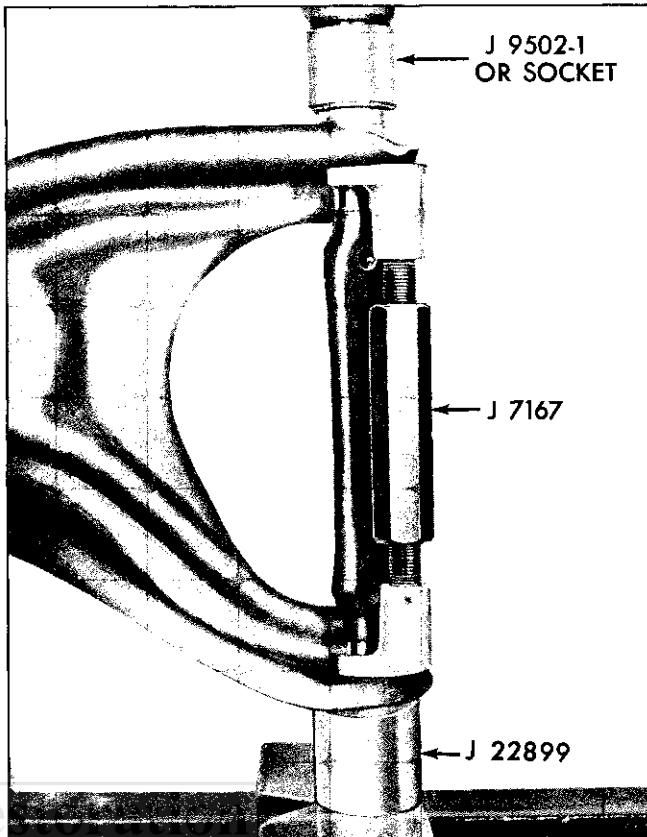

Fig. 3-15 Installing Upper Control Arm Bushing
- a. Place tool J 7167 in position as shown in Fig. 3-15 and expand until tool is snug between inner faces of arm.
d. Press bushings in control arm with arbor press, using two large sockets or J 9502-1 for installers as shown in Fig. 3-15.